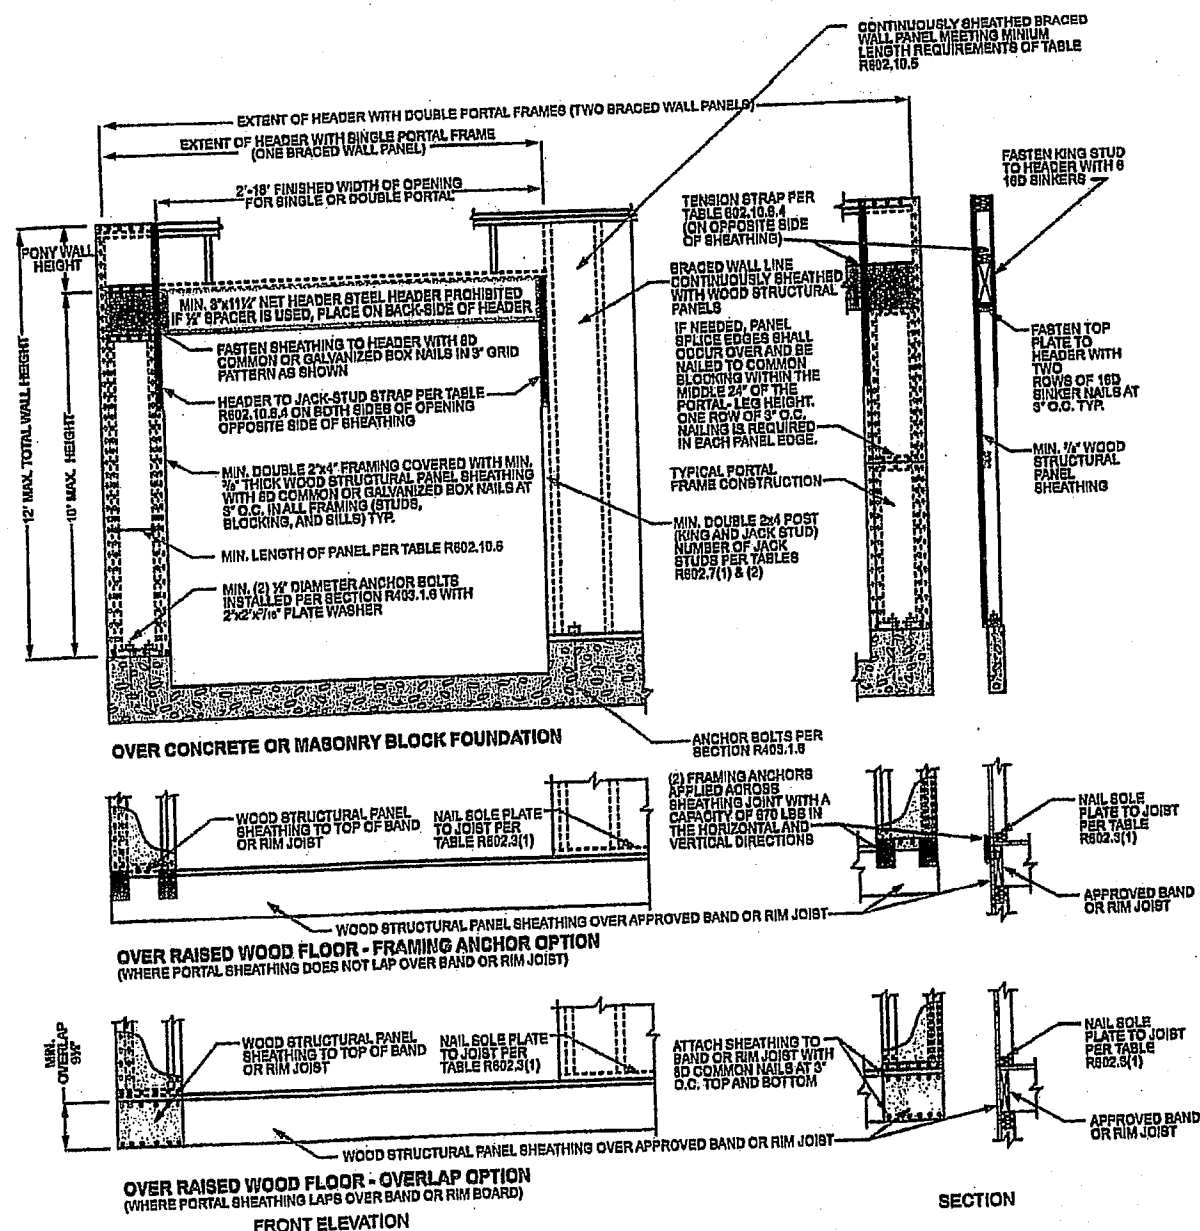

FIGURE R602.10.6.4
c. Maximum header height for PFH is 10 feet in accordance with Figure R602.10.6.2, but wall height shall be permitted to be increased to 12 feet with pony wall.
d. Maximum header height for FFG is 10 feet in accordance with Figure R602.10.6.3, but wall height shall be permitted to be increased to 12 feet with pony wall.
e. Maximum header height for CS-PF is 10 feet in accordance with Figure R602.10.6.4, but wall height shall be permitted to be increased to 12 feet with pony wall.